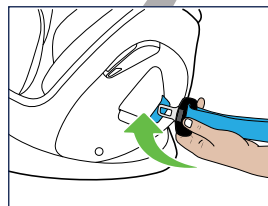
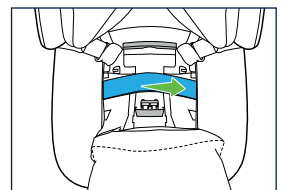
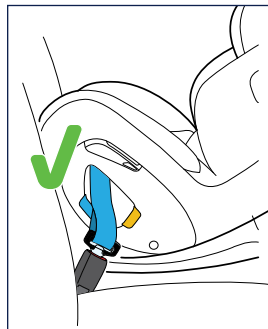

Figure 8
Figure 9
Figure 10
Step 2. Follow the installation path labels (Figure 8) and feed the seatbelt through the open SMART Lock® (Figure 9) the slots at the opposite side of the seat (Figure 10).